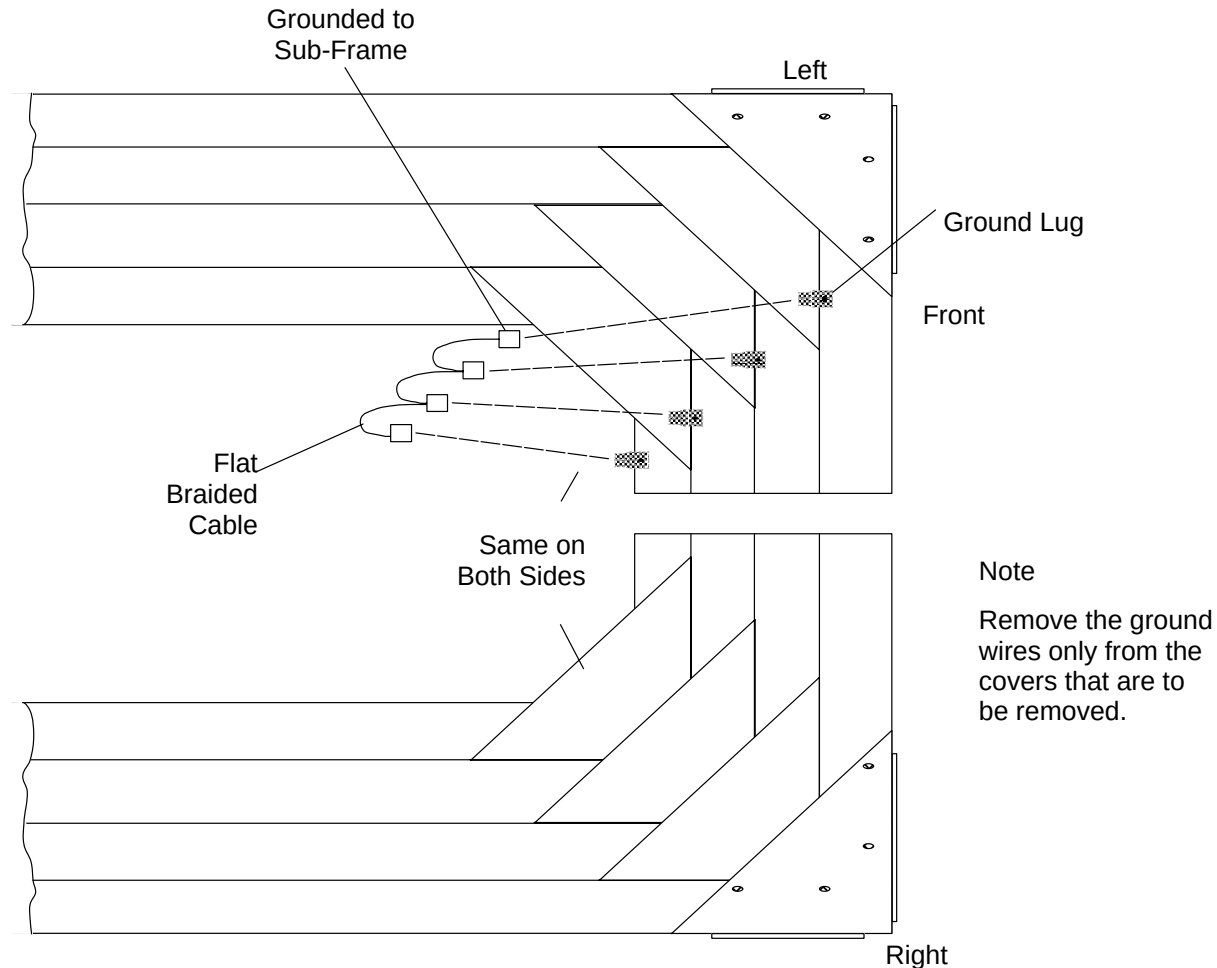

FIGURE 186 TELESCOPING BASE COVERS – GROUND CONNECTIONS
7. Disconnect the two Ground Wires connected to the inside Panel surfaces. Refer to Figure 186. Tag the Panels left and right. Carefully separate the Panels and slide them out to the sides. Store the Covers in a secure area until reinstallation is required.